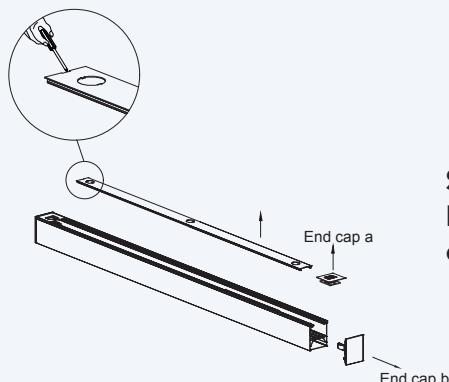

Figure 1
Step 1 : Use a screwdriver to lift the top cover; Remove the magnetic end cap a and the spring end cap b by hand, as shown the left Figure 1